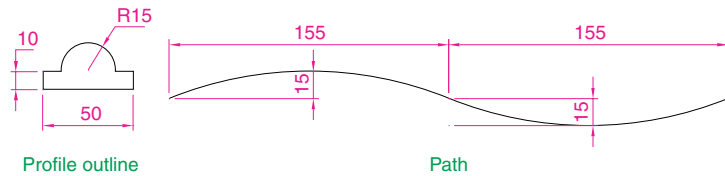
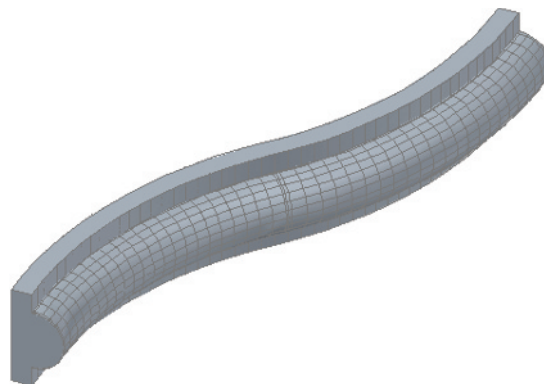

Fig. 13.49 Exercise 9 – profile and path dimensions
Fig. 13.50 Exercise 9
9. Working to the polylines shown in Fig. 13.49, construct the **Sweep** shown in Fig. 13.50.